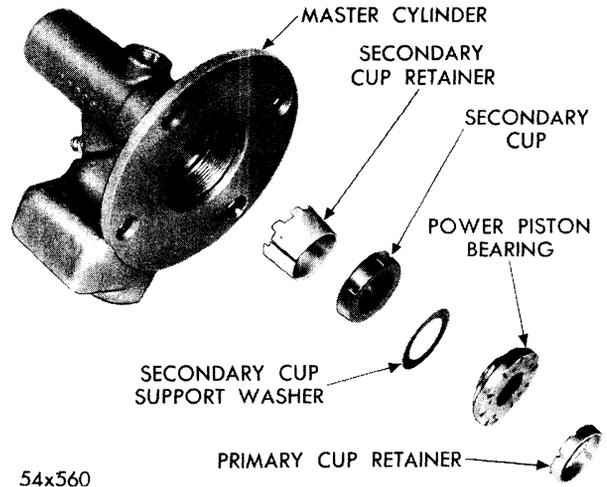

Fig. 83—Secondary Cup Parts (Disassembled View)
- (3) From hydraulic cylinder, lift out primary cup retainer, power piston bearing, and secondary cup support washer. Remove secondary cup. Discard secondary cup only. Lift out secondary cup retainer. Refer to Figure 83.
- (4) Clamp cylinder in vise across flat of cylinder flange. Use wrench to remove secondary